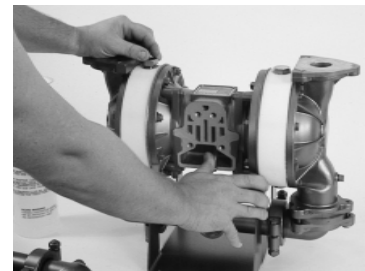

Fig. 4 Purge air in pump by moving diaphragm rod.
5. After filling with the proper amount of liquid, if the liquid does not come to the top of the fill hole, pressure should be applied to the PTFE diaphragm with a blunt tool through the discharge material flow port in the outer chamber until it does come to the top (see Figure 4). To facilitate this filling, a taper punch can be used in the hole of the rod to manually shift the pump.